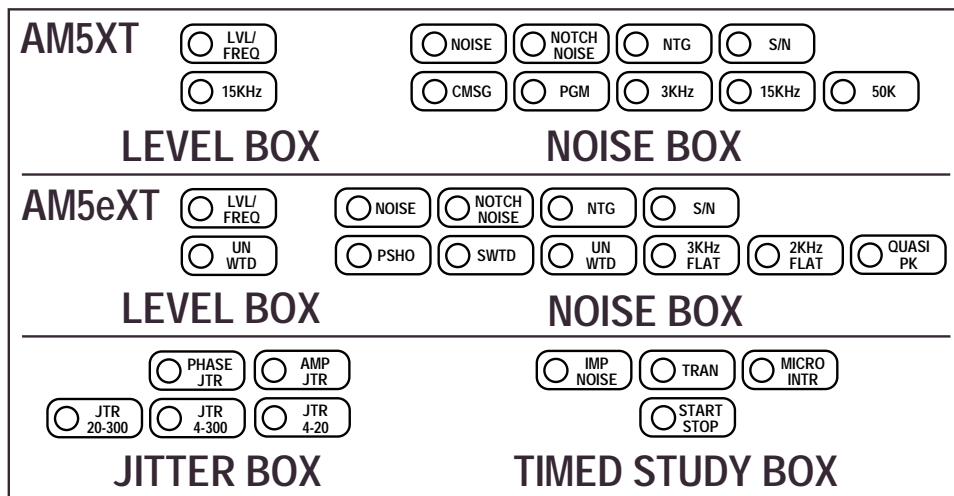

Figure 9-2. Function Boxes
Some Auxiliary Functions are only associated with certain Measure Functions; these Auxiliary Functions are enclosed in a black border, together with the Measure Functions with which they are associated. These are referred to as Function Boxes. There are four (4) Function Boxes, which are illustrated in Figure 9-2.
This function is part of the Level (Function) Box as shown in Figure 9-2. It is a low-pass filter, connected to the front end of the measurement circuitry, effectively eliminating high-frequency components. For the AM5XT, this is a 15 kHz filter; for the AM5eXT, a sound-unweighted filter (30 Hz to 20 kHz).
Noise weighting filters are part of the Noise (Function) Box as shown in Figure 9-2. If a noise measurement is to be made with a noise weighting filter, there are five (5) noise weighting filters from which to choose. Only one (1) of the filters (or none) can be selected for a given noise measurement. The possible filters are listed in Table 9-1.
The three (3) Jitter Bandwidth Weighting Filters are part of the Jitter (Function) Box as shown in Figure 9-2. When making Phase Jitter or Amplitude Jitter measurements, one (1) of these Bandwidths must be chosen for the test. Therefore, one (1) of the Jitter Bandwidth LEDs will always be on, indicating the Bandwidth is selected.
The Start/Stop function is part of the Timed Study (Function) Box as shown in Figure 9-2. It is used to Start/Stop the Timed Study tests enclosed in the Timed Study Box: